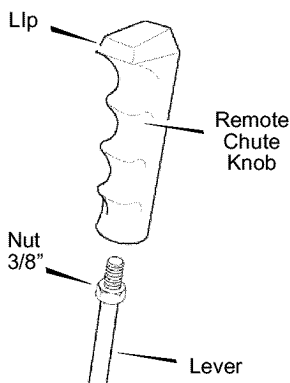

Figure 8
1. Assemble the **remote chute knob** onto the **lever** until snug against the **nut** (see Figure 8).